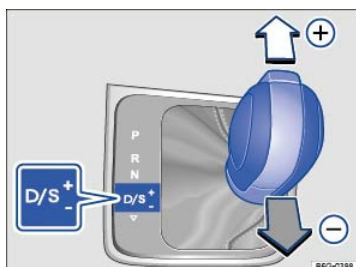

Fig. 126 Selector lever in Tiptronic position.
Switch between Drive (**D**) and Sport drive (**S**) by pulling the selector lever *once* to the rear from gear position **D/S** ⇒ Fig. 126. The selector lever always returns to gear position **D/S**. It is possible to access Tiptronic selection from gear position **D/S** when either Drive (**D**) or Sport drive (**S**) is active ⇒ *Shifting with Tiptronic®*.
- Briefly push the selector lever forward ⊕ to upshift into a higher gear or backward ⊖ to downshift into a lower gear ⇒ Fig. 126.